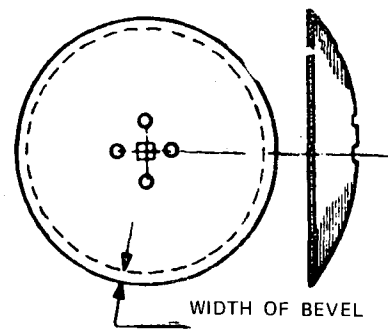

Fig. 1
- a) Measure and mark the width of the bevel (Fig. 1).